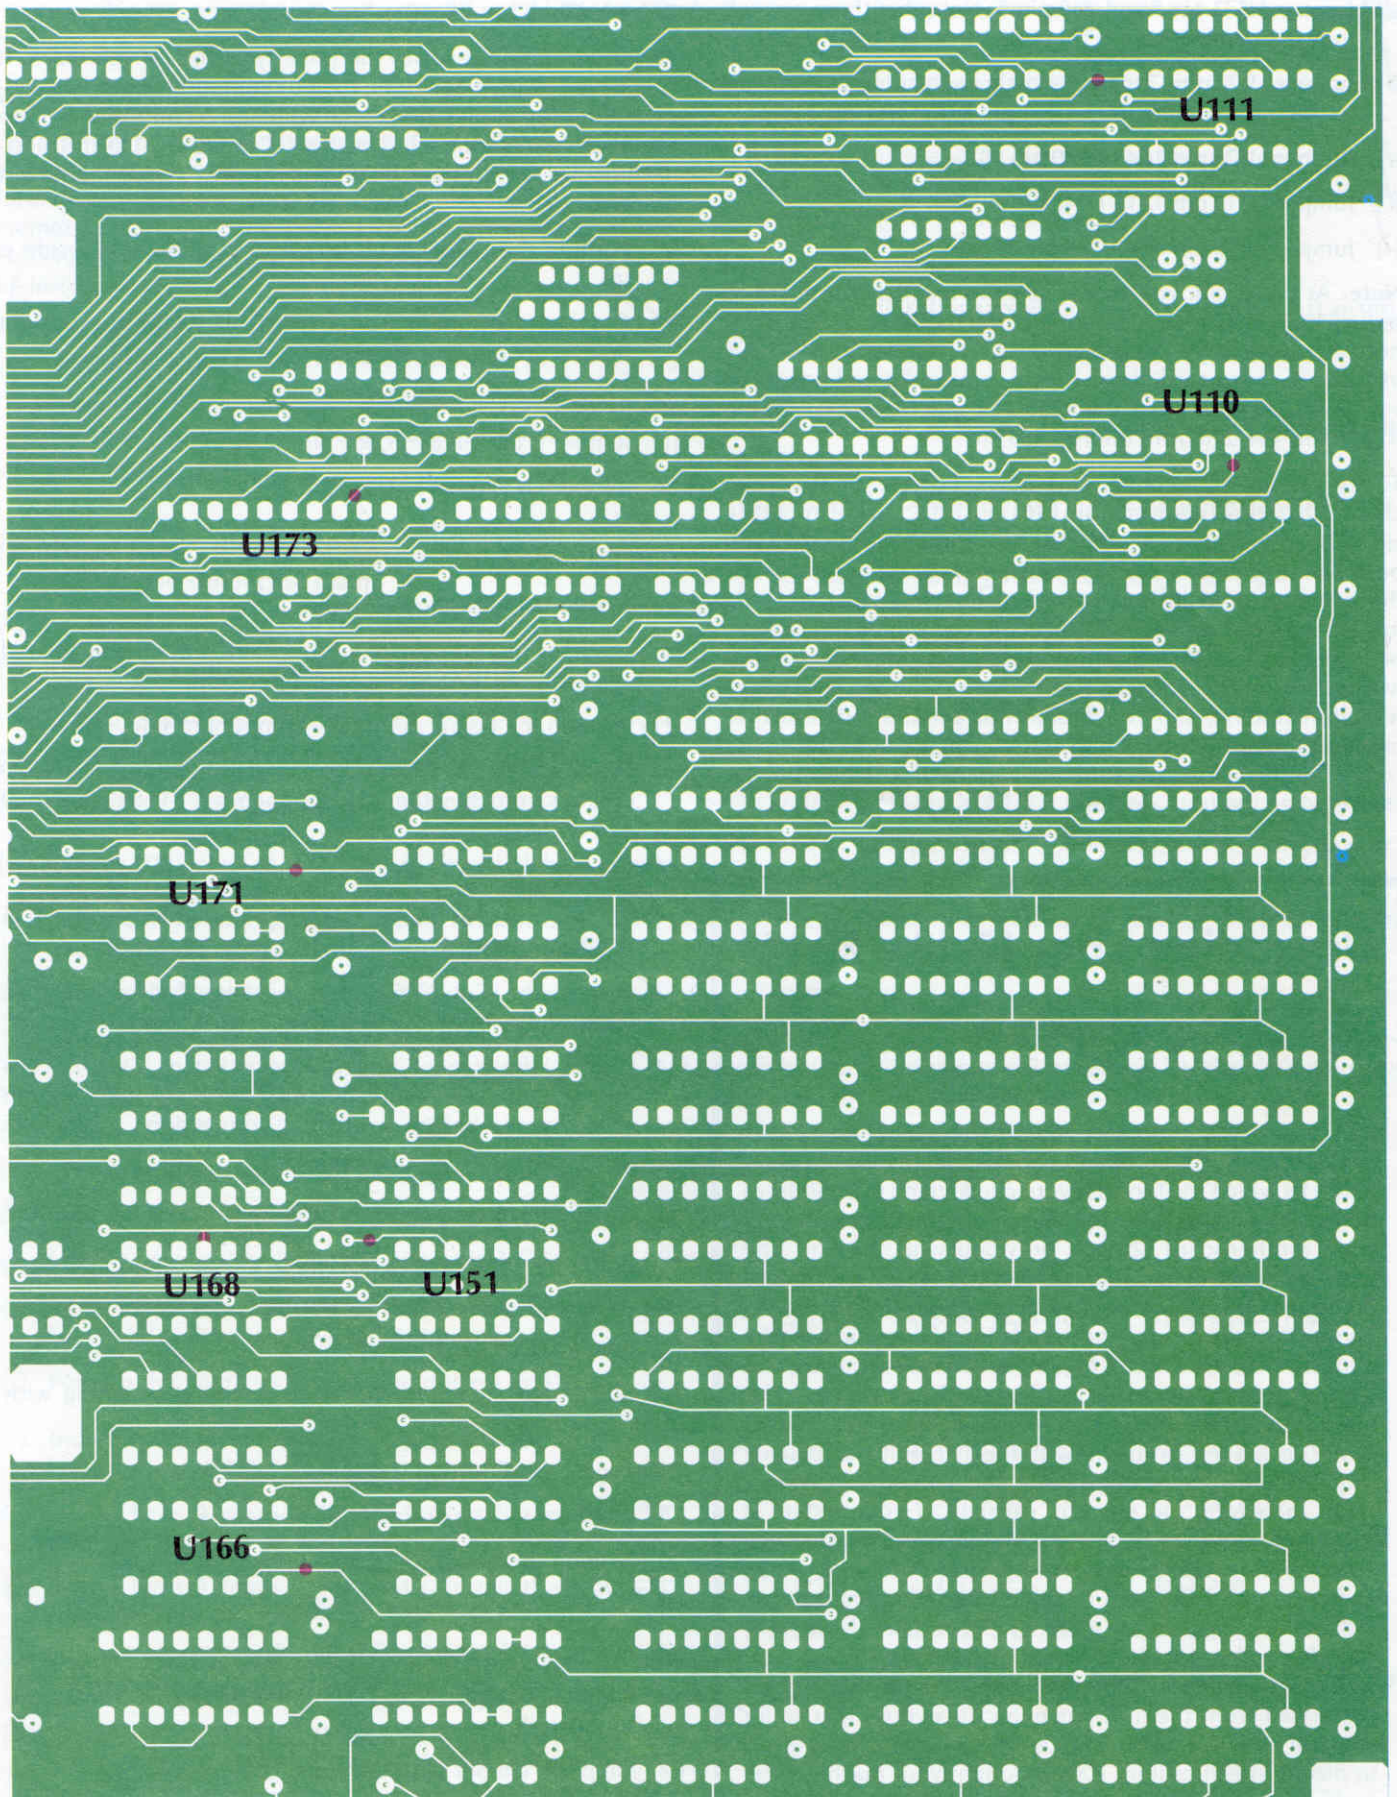

Figure 2. Trace cuts on the foil side of the board.
(4) Cut the trace coming from U166 pin 2. See Figure 2 for this and the next 4 steps.
(5) Cut the trace coming from U151 pin 10.
(6) Cut the trace coming from U173 pin 18.
(7) Cut the trace coming from U110 pin 4.
(8) Cut the trace coming from U111 pin 9. Note the position of the first feed-through hole that this trace comes to.
(9) Jumper U173 pin 7 to U111 pin 3.
(10) Jumper U173 pin 8 to U111 pin 2.
(11) Jumper U173 pin 9 to U149 pin 4.
- (1) Position the main circuit board so that the solder side is up.
- (2) Cut the trace coming from U168 pin 11. Make the cut right next to the pin. See Figure 2.
- (3) Jumper U130 pin 5 to U130 pin 10.
- (4) Jumper U130 pin 8 to U152 pin 1.
- (5) Jumper U130 pin 9 to U225 pin 3.
- (1) Position the board so that the solder side is up.
- (2) Cut the trace coming from U171 pin 10. See Figure 2.
- (3) Jumper U155 pin 8 to U156 pin 13.
- (4) Jumper U156 pin 12 to U171 pin 1 or 2 (pins 1 and 2 are connected).
- (5) Jumper U156 pin 11 to U171 pin 10.